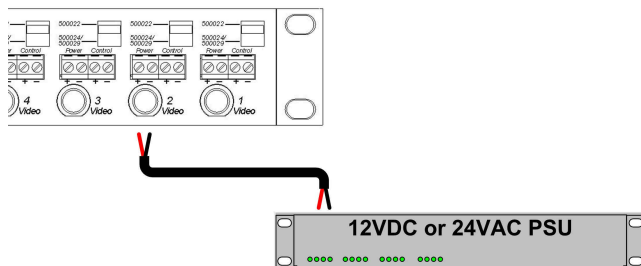

Figure 9: Remote power connection
8. If remote power is being transmitted to the camera, verify that the distance between the camera and the hub is within MuxLab specifications. Please consult the distance charts at the back of the installation guide. When the port switch is set to Pass-Thru Mode (500022), two (2) twisted pairs are used for remote power. When the port switch is set to Power-Thru Mode (500024/500029), three (3) twisted pairs are used for remote power thus supporting greater distance.
9. Connect two (2) wires between the power terminals of the hub to the remote low voltage power supply (fig 9). **It is recommended to use a Class II power supply with fuse protection on each output port.**